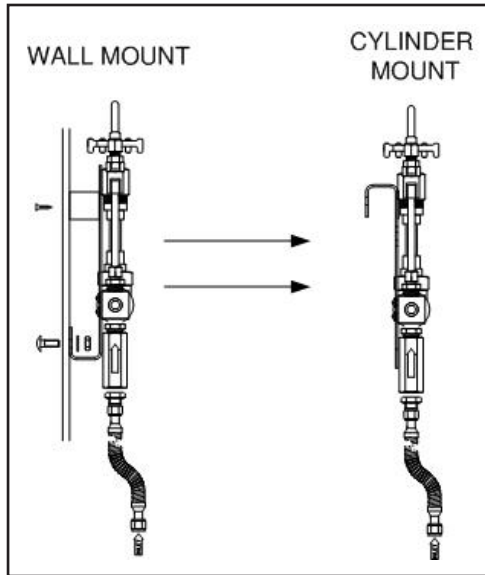

Figure 5 - Mounting Orientation
6. If necessary, rotate manifold bracket as illustrated in Figure 5 by removing the four screws located in the back of the manifold.